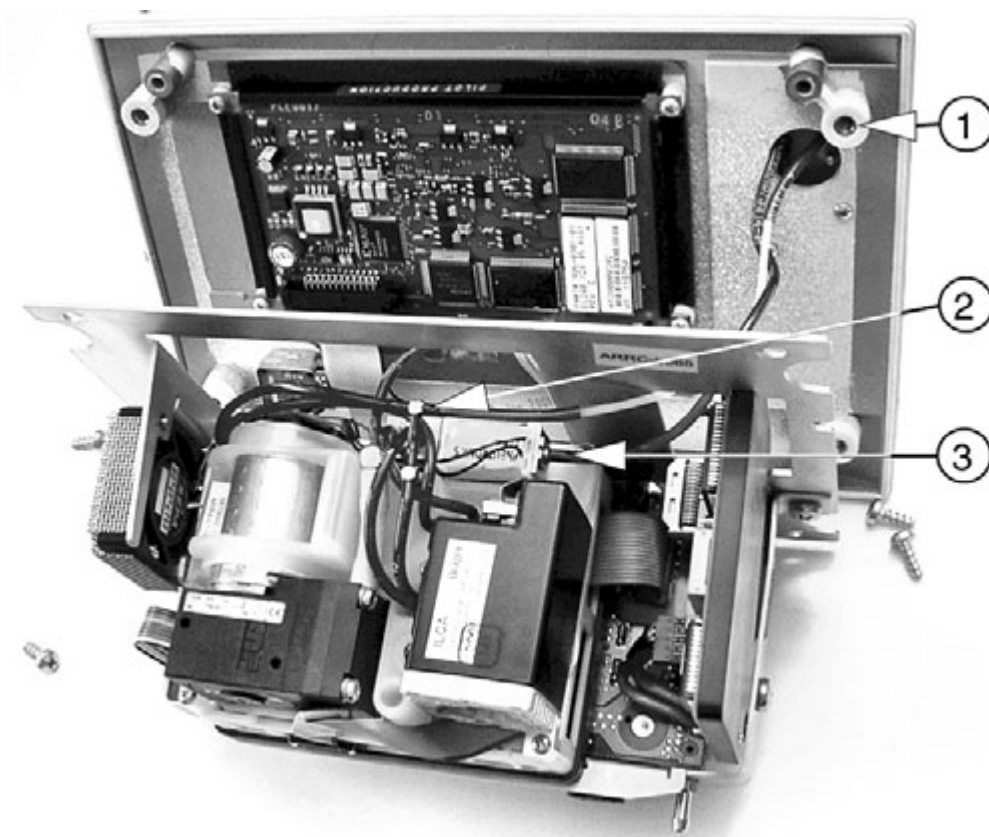

Fig. 4 Basic frame and components
- Remove the four external fixing screws (Fig. 4/1).
- Disconnect the water-trap hose and Teflon part from the T-piece (Fig. 4/2).
- Disconnect the red water-trap hose (Fig. 4/3) from the solenoid valve.